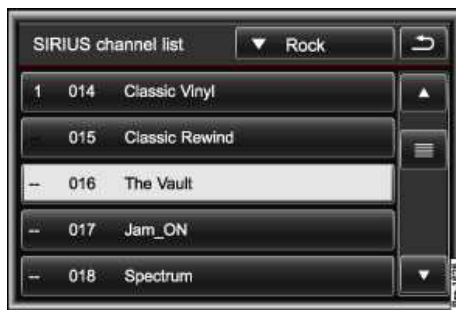

Fig. 149 Station list for station selection.
All available stations are displayed in the station list ⇒ fig. 149.
- To close the station list, press the **↩** function key ⇒ fig. 149.